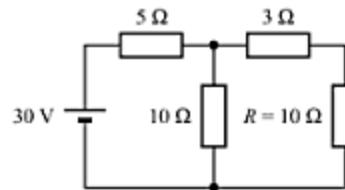

Fig. 4.43
- By applying Thevenin's theorem, find the voltage across the resistance R in the circuit shown in Fig. 4.43. [Ans. 12.24 V]